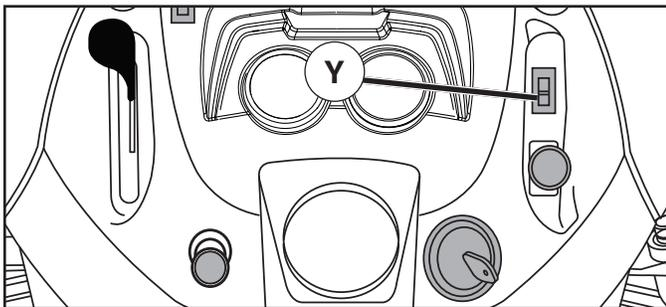

Fig. 14
### TO USE DIFFERENTIAL LOCK CONTROL (Y) (See Fig. 14)